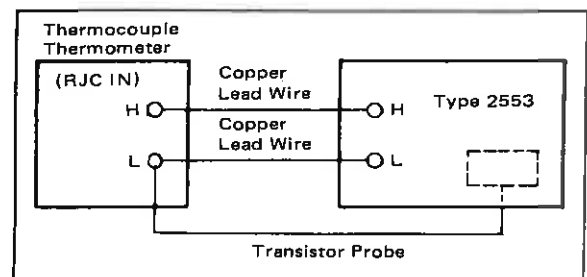
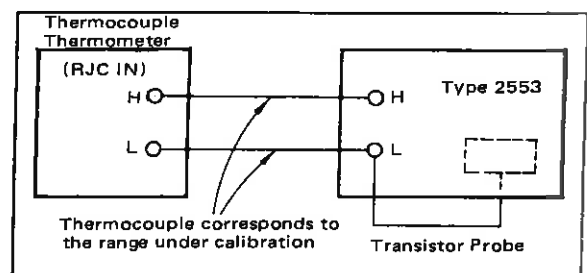

Figure 3-3.
Figure 3-4.
- (1) Connect the transistor probe to the instrument rear panel connector. Then confirm that the INT RJ lamp lights.
- (2) Set the range selector switch to R.J. TEMP. and confirm that the instrument indicates the transistor probe temperature (room temperature).
- (3) To detect terminal temperature of a thermometer under calibration with transistor probe, connect the thermometer to the instrument with copper lead wires as shown in Figure 3-3 and sense the instrument output terminal temperature using the transistor probe. Use the thermocouples corresponding to the range of the thermometer under calibration for lead wires as shown in Figure 3-4.